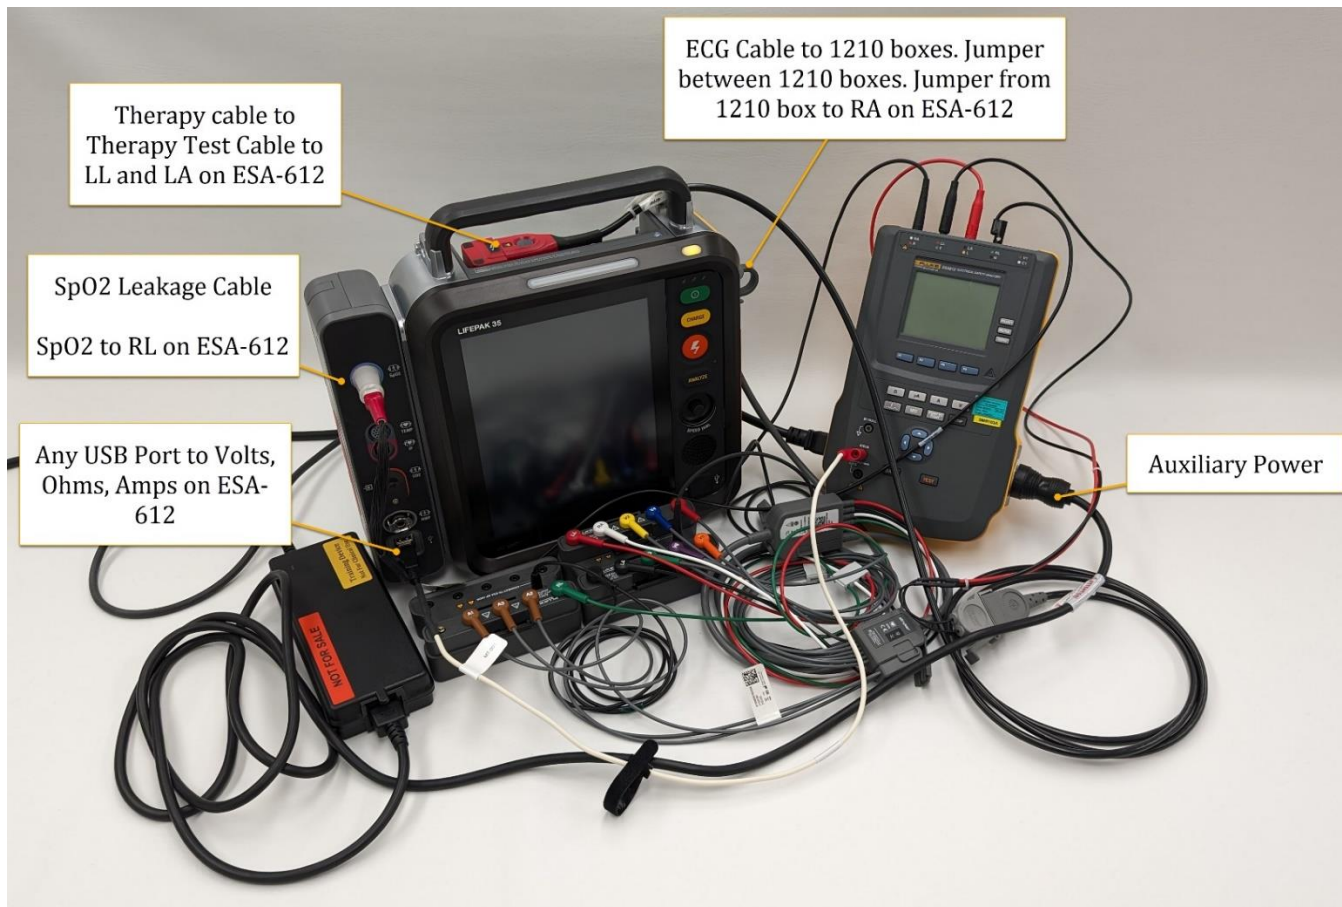

Figure 33
11. Refer to the actual setup in Figure 33 below for reference: